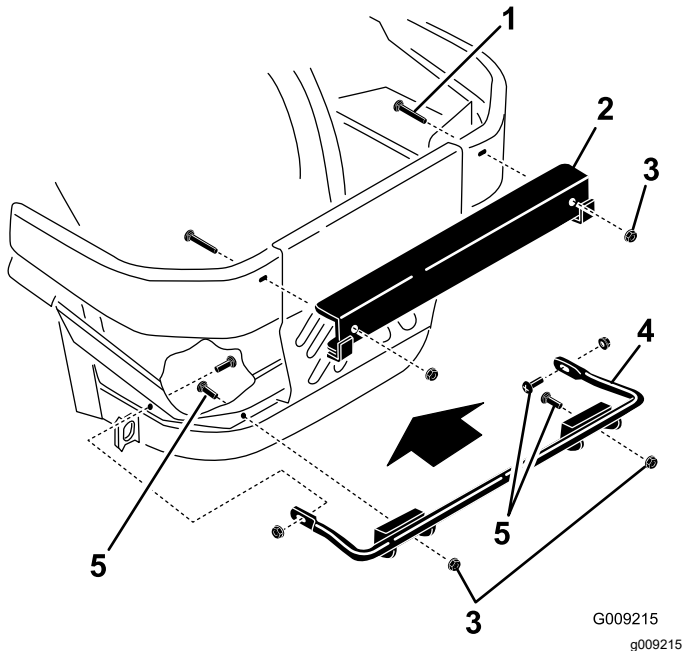

Figure 6
1. Install the lower mounting bracket to the machine frame with 4 carriage bolts (3/8 x 1-1/4 inches) and 4 flange nuts (3/8 inch) as shown in Figure 6.
2. Install the upper mounting bracket to the left and right side bumpers with 2 carriage bolts (1/2 x 2-1/2 inches) and 2 flange nuts (1/2 inch) as shown in Figure 6.